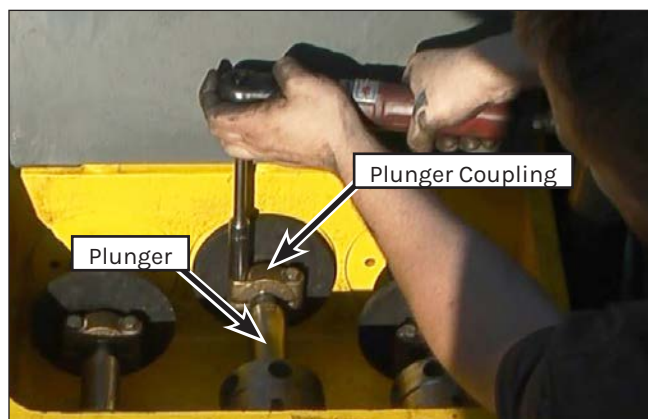

Figure 179: Plunger Coupling Removal.
2. Open the rod box cover and remove the two capscrews that secure the plunger coupling (Figure 179) to the plunger and remove the coupling.